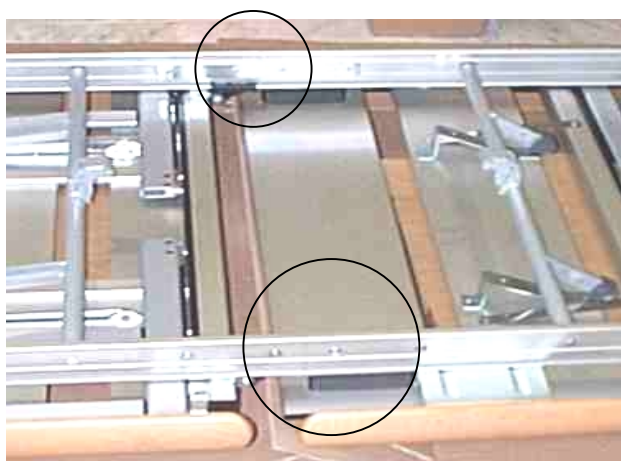

Figure 6
- Take care that the connecting piece already fitted to the head section is uniformly seated in the groove in the aluminium profile of the foot section. The centring bolts must be inserted into the drilled holes so that the aluminium profiles adjoin evenly and without a gap (see Figure 6).